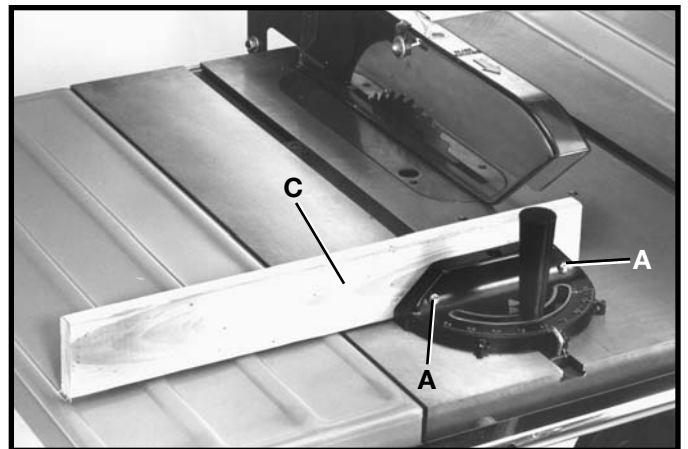

Fig. 58
For added safety and convenience the miter gage can be fitted with an auxiliary wood-facing (C), as shown in Fig. 58, that should be at least 1 inch higher than the maximum depth of cut, and should extend out 12 inches or more to one side or the other depending on which miter gage slot is being used. This auxiliary wood-facing (C) can be fastened to the front of the miter gage by using two wood screws (A) through the holes provided in the miter gage body and into the wood-facing.